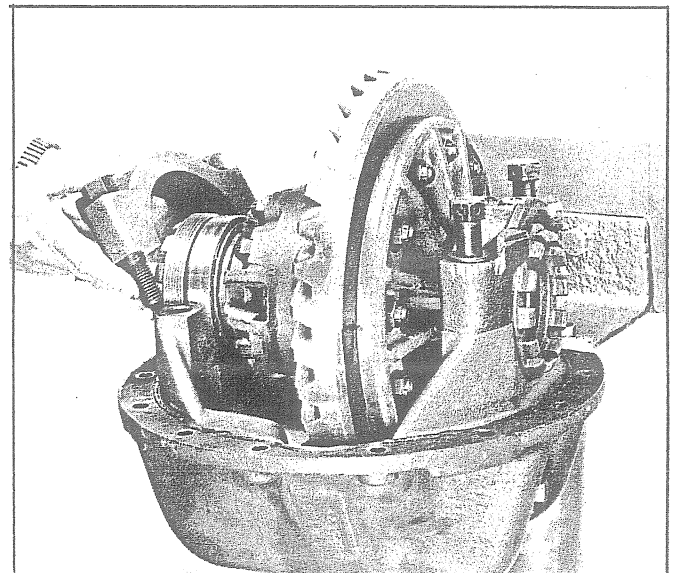

Fig. 65 - Installing Bearing Cap
17. Position bearing caps over bearings and nuts while aligning punch marks in caps with marks on carrier (made during disassembly). See Fig. 65.